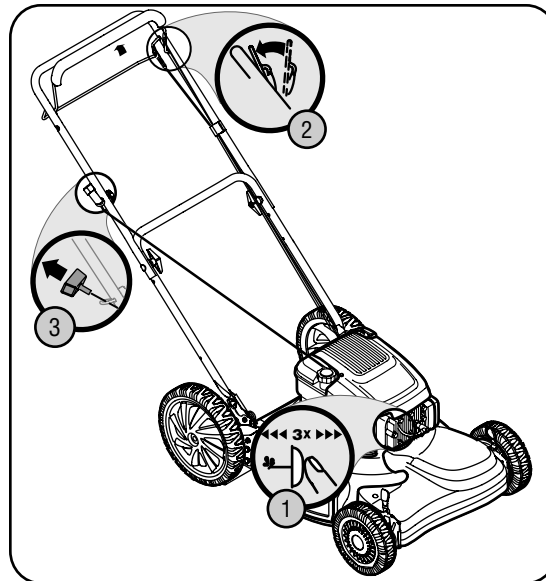

Figure 4-2
1. Push primer three times. Wait about two seconds between each push. See Figure 4-2. In temperature around 55° F or below, prime five times. Do not prime to restart a warm engine.
2. Standing behind the mower, squeeze the blade control against upper handle as shown in Figure 4-2.